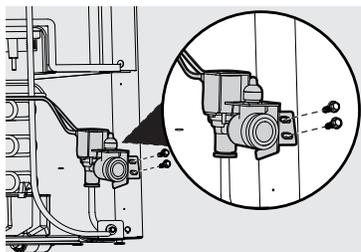

Figure 12
15. The water valve location has pre-made holes on the right rear of the unit. The water line should be oriented downward when the valve is installed. Install the water valve using a 1/4" hex head driver, install the 2 hex head screws. Tighten screws until they are snug and then tighten an additional 1/4 turn. See Figure 12.